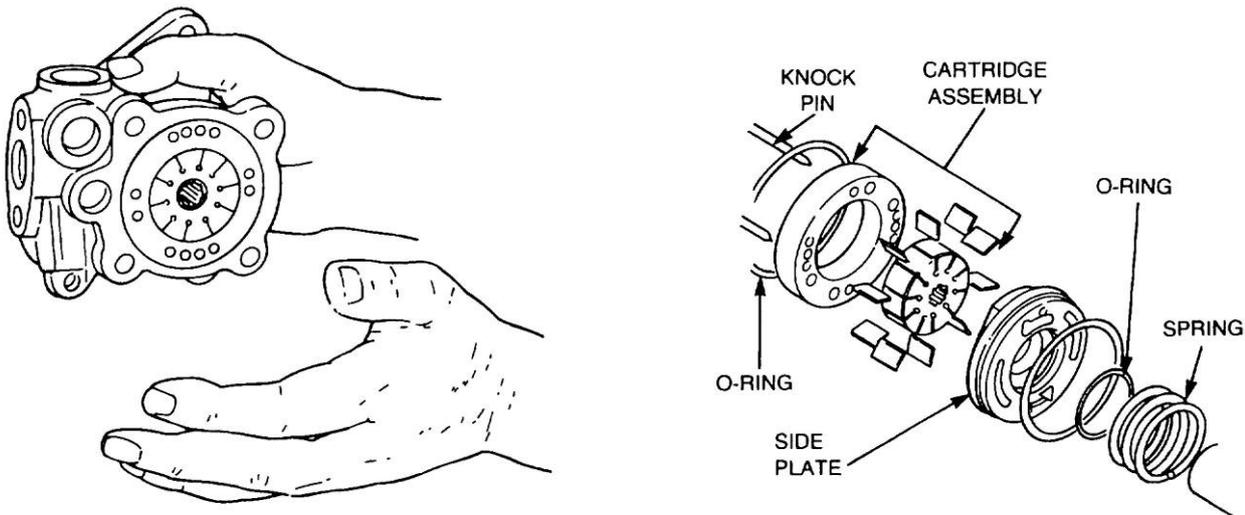

Figure 146 Removal of the Cartridge and Coil Spring
- e. Remove the power steering pump from the vice and by gently shaking the pump, remove the cartridge and spring (Figure 146).